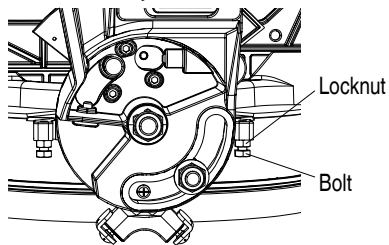

Fig. 21
- (2) Loosen the bevel lock handle and tilt the gear case completely to the left.
- (3) Using a combination square, check to see if the blade is 45° to the table.
- (4) To adjust, tilt the gear case to 0°, loosen the locknut, and turn the bolt in or out to increase or decrease the angle as shown in Fig. 21.
- (5) Tilt the gear case back to the left, and recheck alignment.
- (6) Repeat steps until the blade is 45° to the table. Once alignment is achieved, tighten locknut and bevel lock handle when alignment is achieved.